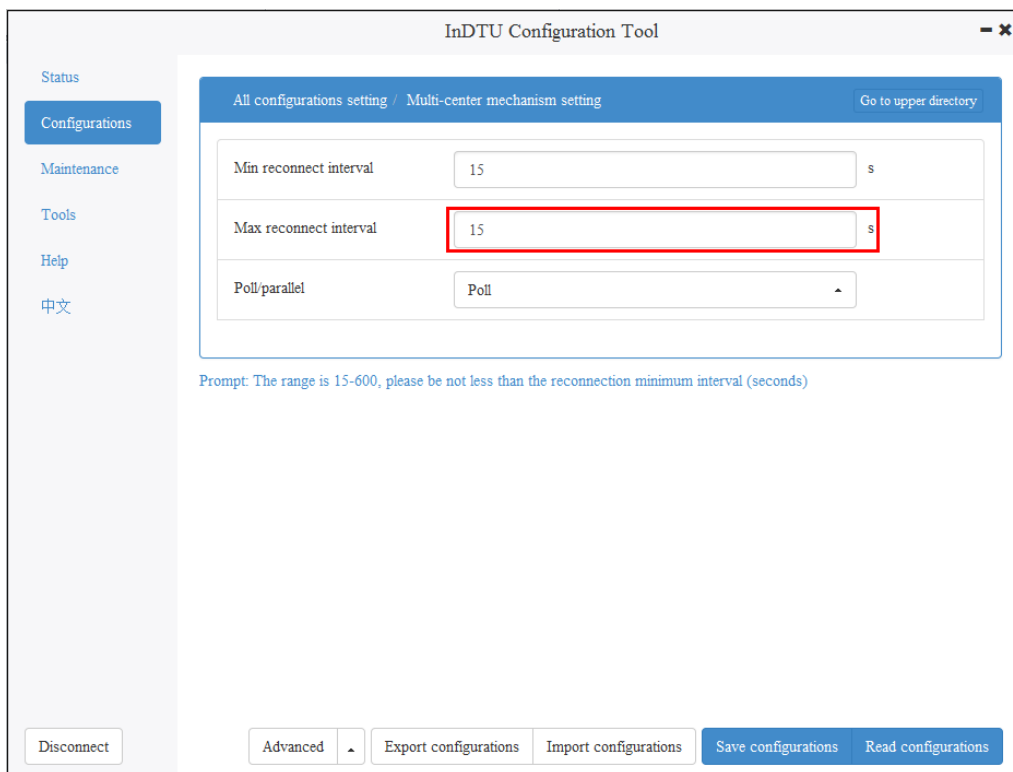

Figure 4-9-5 Dual-SIM switching setting 5
- (1) Currently, one center is configured, and **Max login times** is **5**. When the number of failures to establish a connection to the center reaches 10, the SIM card is switched for redialing.
- (2) Currently, two centers are configured, and **Max login times** is **5**. When the number of failures to establish a connection to the center reaches 20, the SIM card is switched for redialing.
Step 5: Choose **Configurations > All Configurations Setting > Multi-center mechanism setting** and set **Max reconnect interval** as required (the default value is **15s**), as shown in Figure 4-9-5.